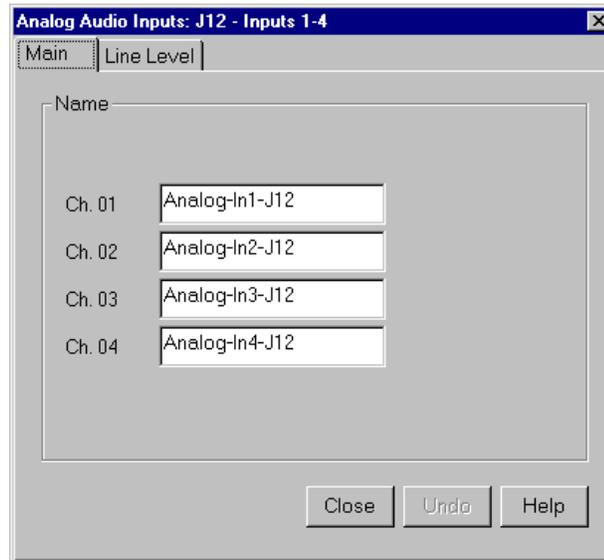

Figure 38. Analog Audio Input dialog box, Main tab
1. Expand **Audio Input**, and then click one of the Analog Channels. The Analog Audio Input dialog box appears (Figure 38). The channel numbers on the left refer to the physical input connectors on the audio input box. **Ch. 01** refers